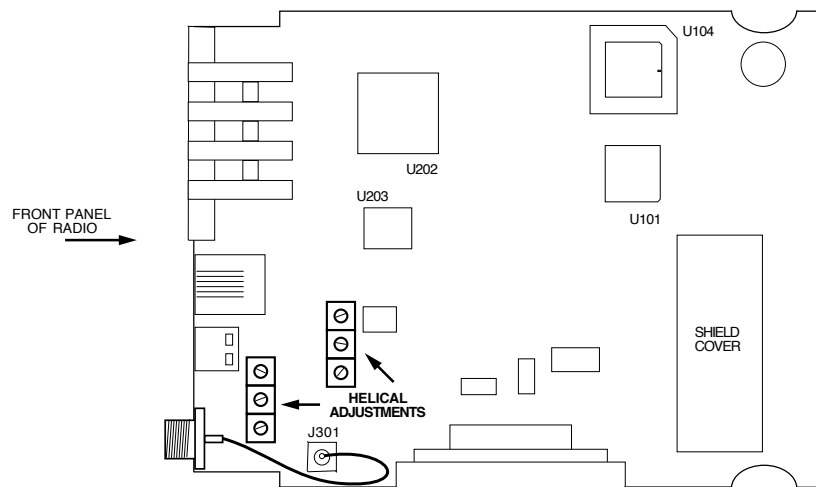

Figure 11. Helical Filter Locations
2. Locate the helical filters on the PC board. See Figure 11 on Page 34.